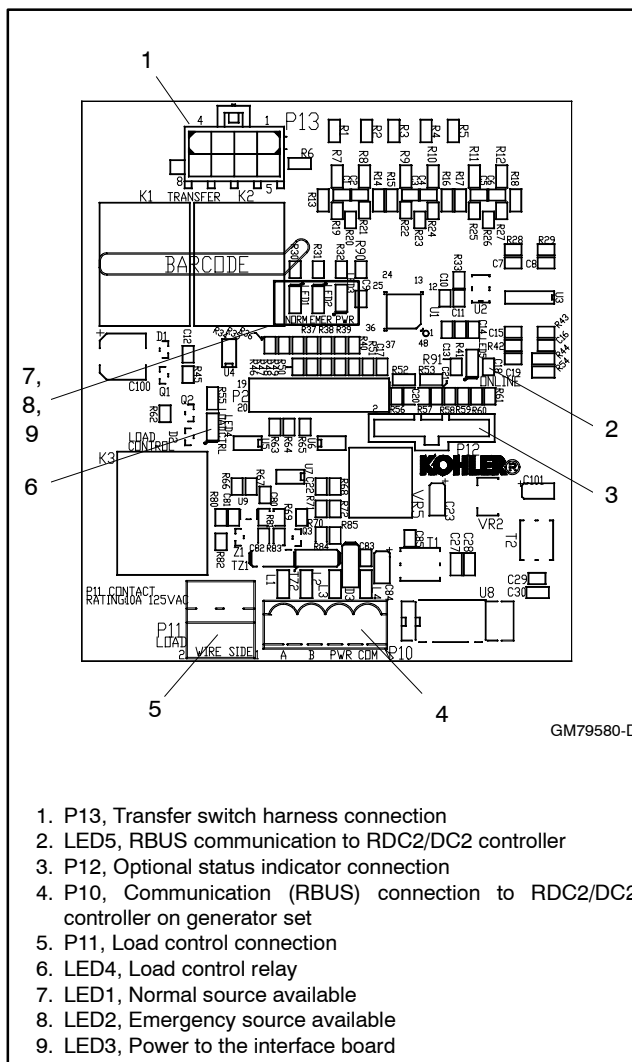
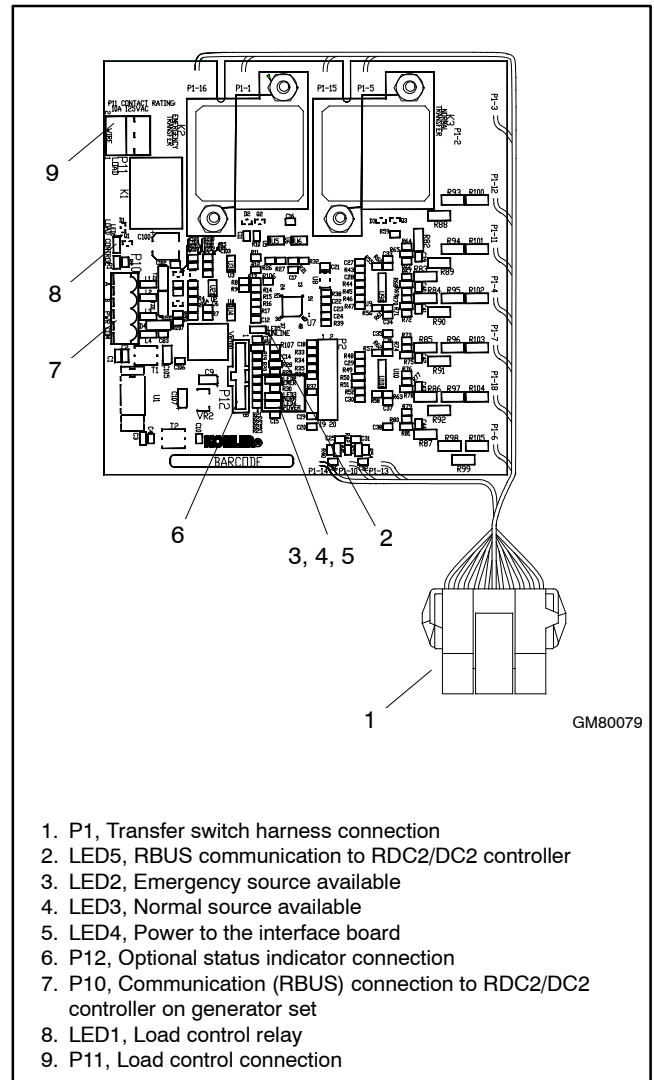

Figure 5-1 Interface Board (1 Phase)
Figure 5-3 Interface Board (3 Phase)
3. Disconnect the transfer switch contactor wiring harness from P13 on the single-phase interface board or P1 on the 3-phase interface board. See Figure 5-1 or Figure 5-3.